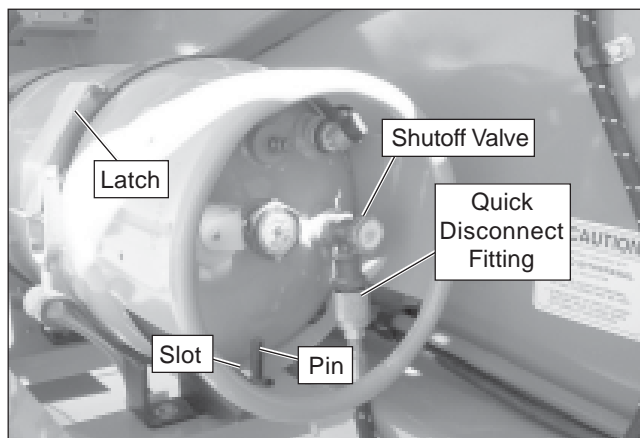

Figure 7.5 – LPG Tank
1. Close the shutoff valve (refer to Figure 7.5).